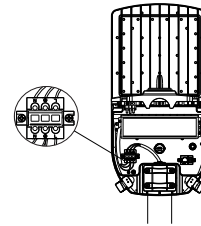

Figure 16
Step 5: Perform the necessary wiring according to the marking instructions on the wiring connector inside the driver box (Figure 16).